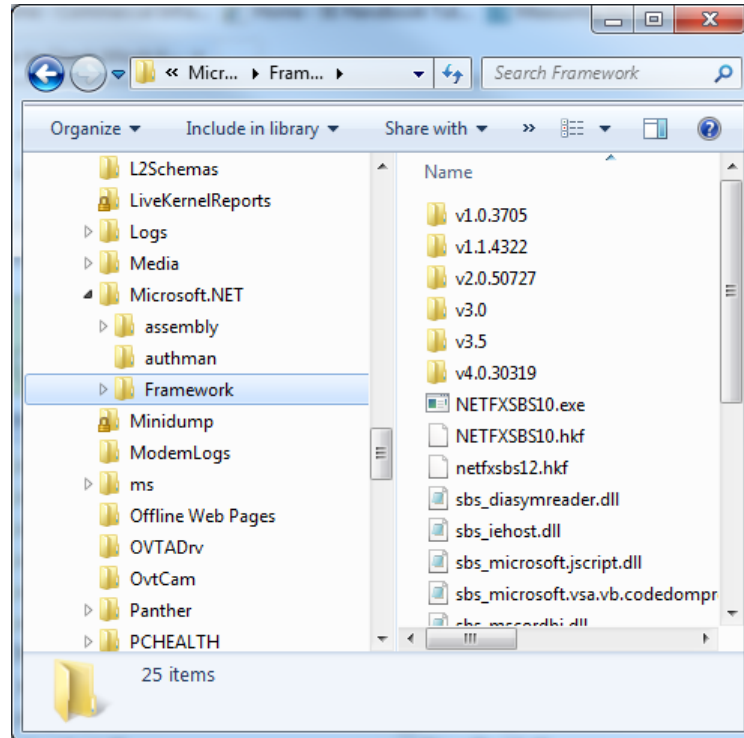

Figure 60. Microsoft.net
- Within the Framework folder, ensure that the v4.0 directory is present (as shown in Figure 60). If it's not present, re-run the Camera Control Software Installer or download the Framework from the following link: